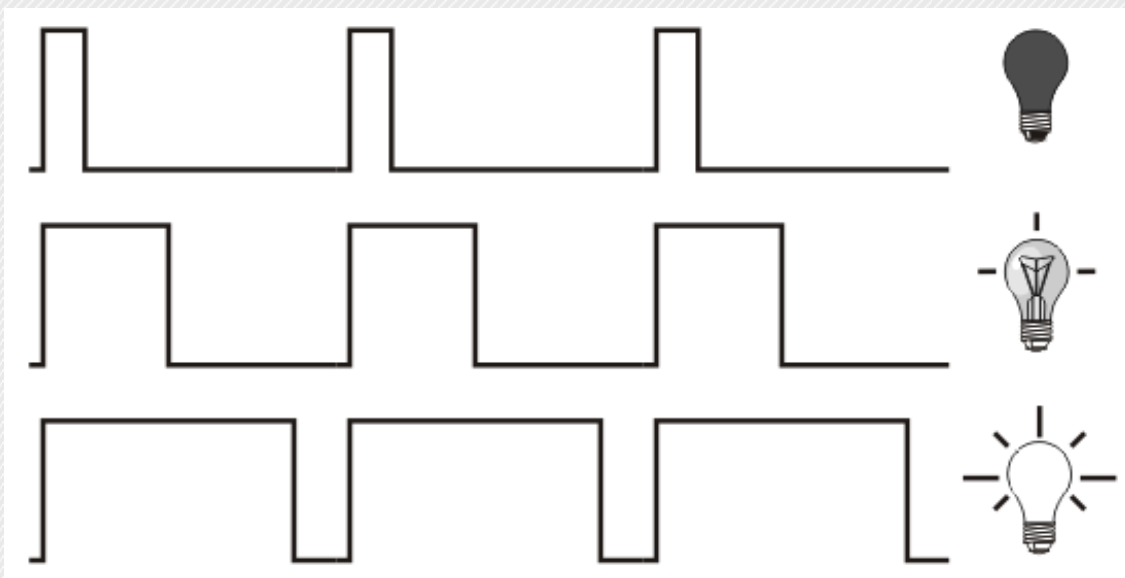

Fig. 5-4 CCP1 in PWM mode
Signals of varying frequency and duty cycle have a wide application in automation. A typical example is a power control circuit whose simple operation is shown in figure 5-4 below. If a logic zero (0) represents switch-off and logic one (1) represents switchon, the power that the load consumes will be directly proportional to the pulse duration. This ratio is often called *Duty Cycle*.